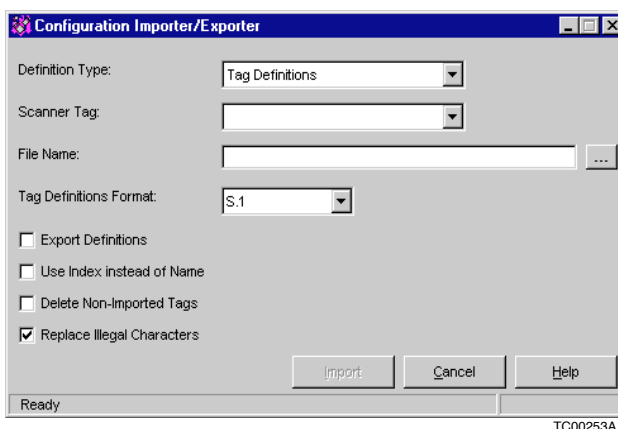

Figure 8-13. Tag Importer Window with Check Boxes
2. When *Tag Definitions* is selected three check boxes appear in the window (Fig. 8-13). If any of the following functions are needed click the appropriate check box.